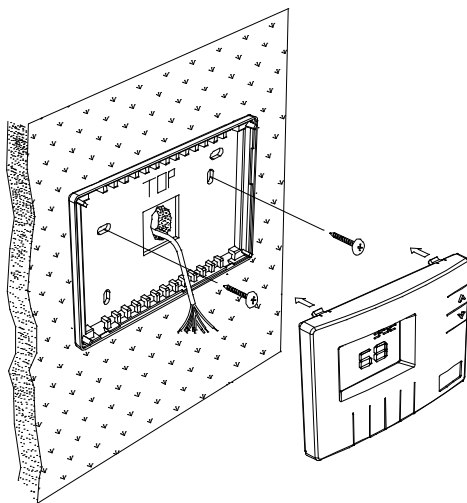

Figure 1 - Mounting thermostat base
5. Mount the base to the wall using the two #6 x 1/2" self-tapping screws supplied - **See Figure 1.**